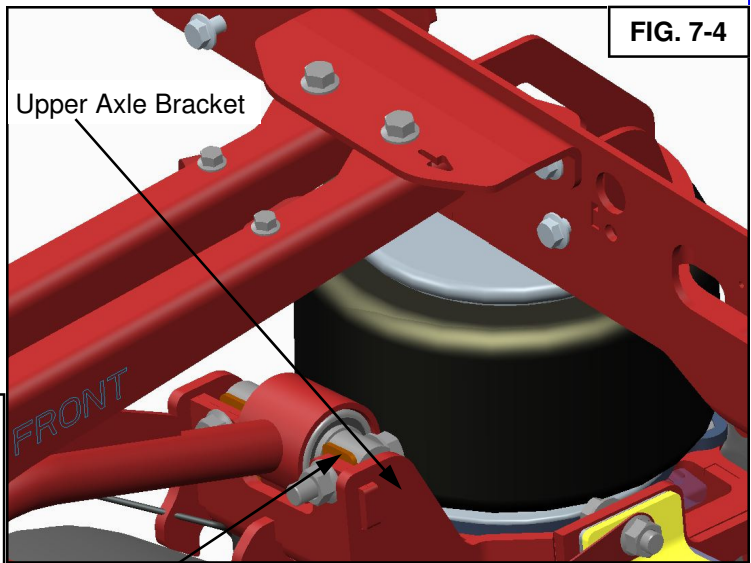

FIG. 7-4
5. Fasten the Crossmember Channels to the Driver Side Crossmember Bracket using (2) 1/2 X 1 1/4 UNC Flange Bolts and (2) 1/2 UNC FLANGE NUTS, as shown in Fig 7-4. Torque Later.
6. ALIGNMENT SHIMS are provided to ensure axle is centered between frame rails. Install the LATERAL CONTROL ROD initially using (2) shims as a starting point. Use (2) 5/8 X UNC FLANGE BOLTS and (2) 5/8 UNC TOP LOCK NUTS to loosely attach lower end of LATERAL CONTROL ROD. See Fig. 7-4 for details.
WARNING! Ensure that the brake lines are not kinked or pinched, and that they do not contact the lateral control rod. Refer to Fig. 7-4 and confirm shim plate alignment.